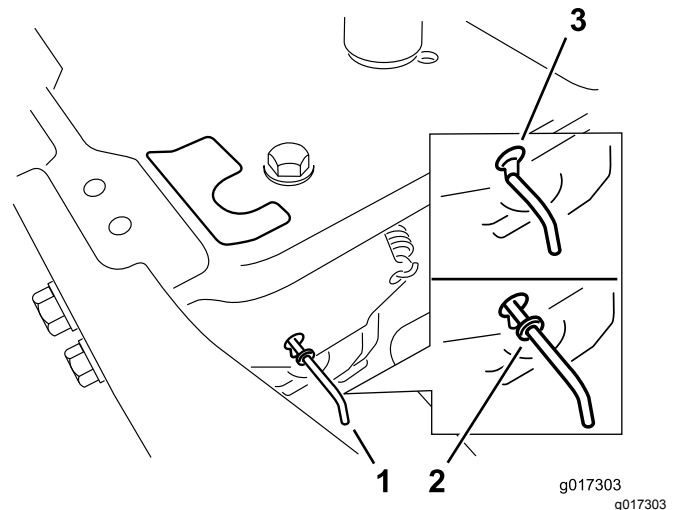

Figure 25
4. Move the bypass levers forward through the key hole and down to lock them in place (Figure 25).
Move the bypass levers rearward through the key hole and down to lock them in place as shown in Figure 25.